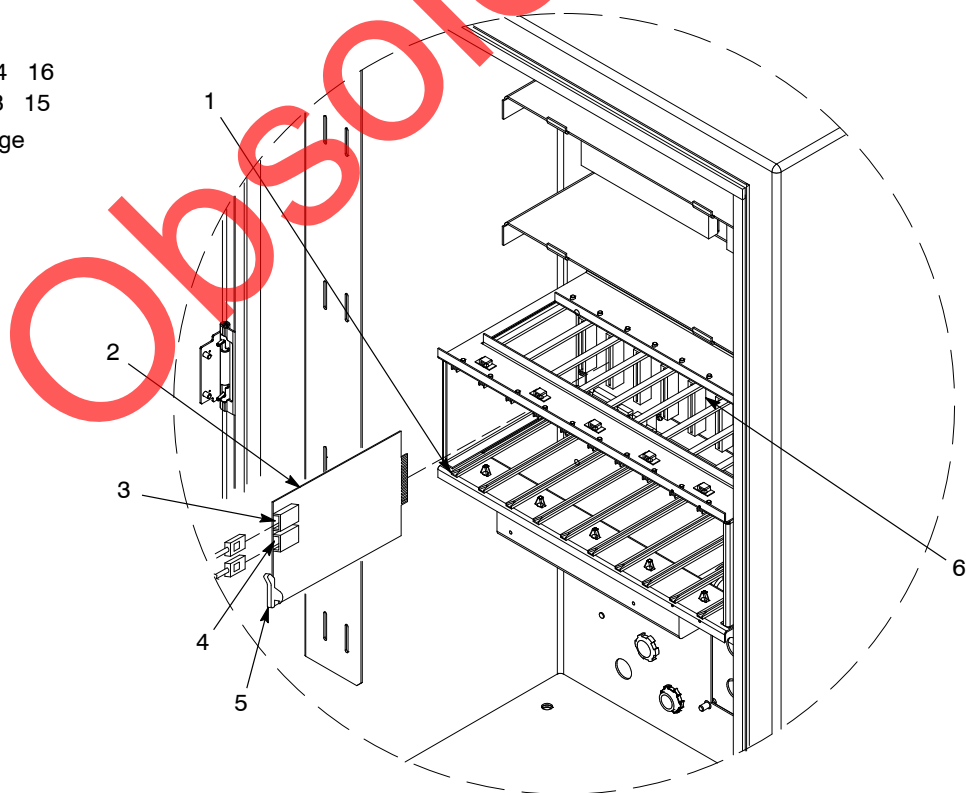

Figure 5-2 Gun Control Card Replacement
See Figure 5-2. Gun control cards (2) are installed in the card cage from left to right. Each card controls two guns: the bottom receptacle is the odd gun number; the top receptacle is the even gun number.